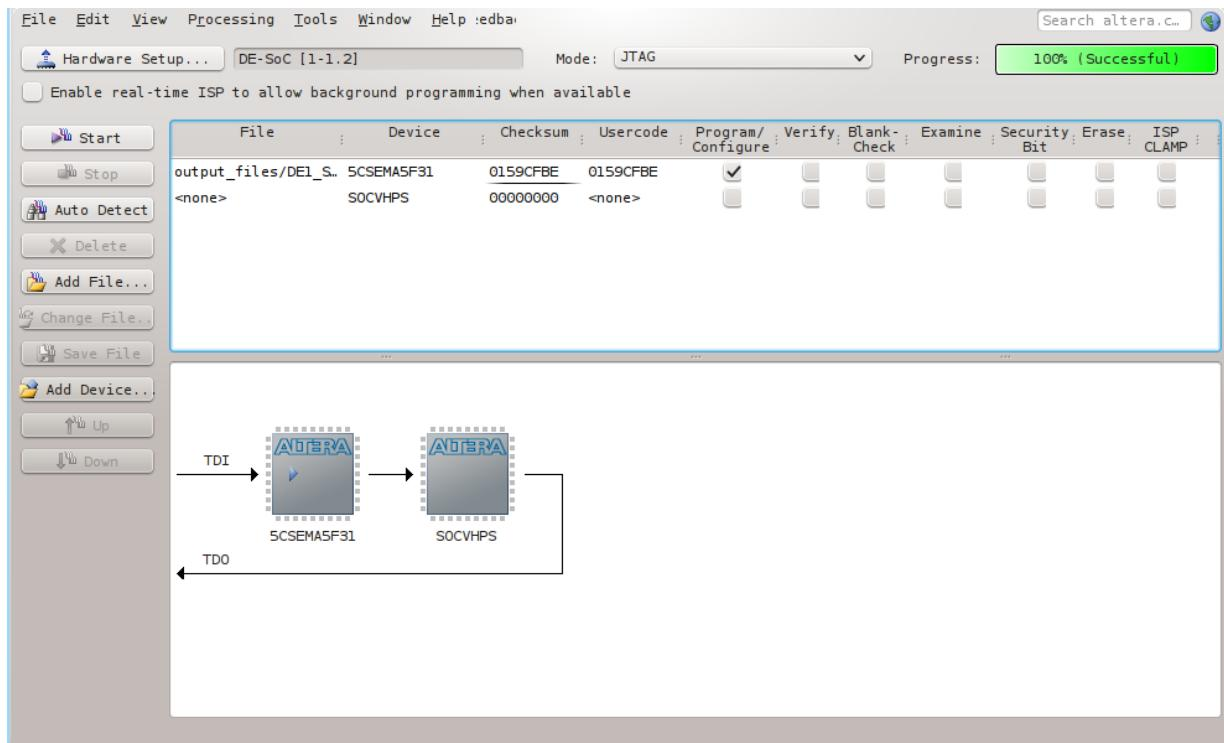

Figure 8-19. Programming the FPGA
39. Enable the “Program/Configure” checkbox for device “5CSEMA5F31”, then press the “Start” button, as shown in Figure 8-19.